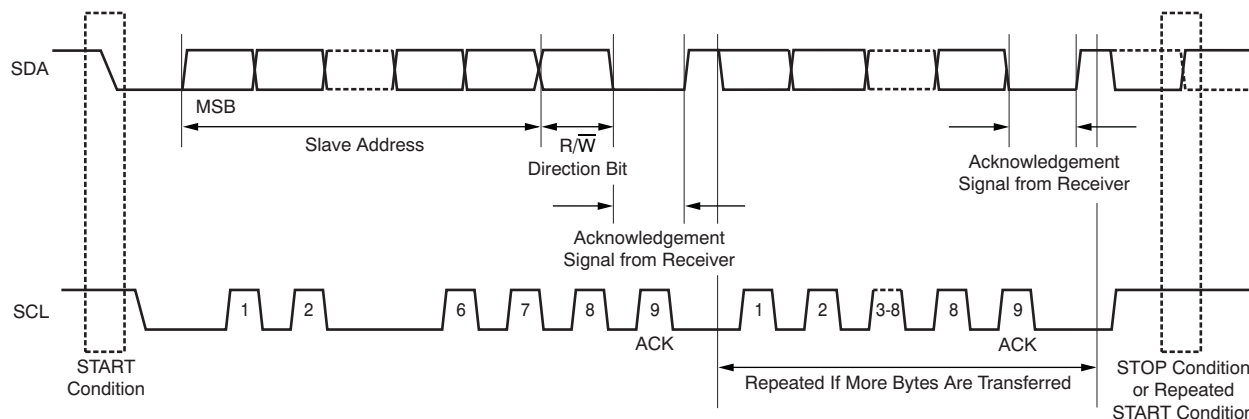

Figure 29. Complete Fast- or Standard-Mode Transfer
The following bus protocol has been defined (see Figure 29):
Figure 29 details how data transfer is accomplished on the I²C bus. Depending upon the state of the R/W bit, two types of data transfer are possible:
In the serial transfer format of F/S mode, the master signals the beginning of a transmission to a slave with a START condition (S), which is a high-to-low transition on the SDA input while SCL is high. When the master has finished communicating with the slave, the master issues a STOP condition (P), which is a low-to-high transition on SDA while SCL is high, as shown in Figure 29. The bus is free for another transmission after a stop condition has occurred. Figure 29 shows the complete F/S mode transfer on the I²C, 2-wire serial interface. The address byte, control byte, and data byte are transmitted between the START and STOP conditions. The SDA state is only allowed to change while SCL is low, except for the START and STOP conditions. Data are transmitted in 8-bit words. Nine clock cycles are required to transfer the data into or out of the device (8-bit word plus acknowledge bit).